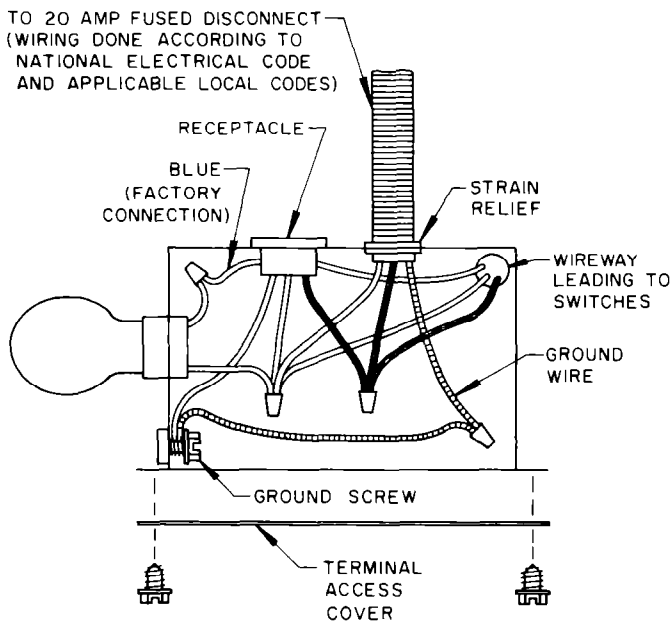

Figure 8
1. Connect the appliance to the junction box through flexible armoured or nonmetallic sheathed copper cable (with ground wire). A suitable strain relief must be provided at each end of the power supply cable (at appliance and at the junction box). See Figure 8.
1. Remove the terminal access cover. See Fig. 8.
2. Install a strain relief into the opening of the wire junction box. See Figure 8.
3. Connect the white and black wires of the power supply cable to the white and black wire leads inside the terminal access box. See Figure 8.
4. Connect the green ground wire from the power supply cable to the end of the green ground wire provided in the terminal access box. See Figure 8.